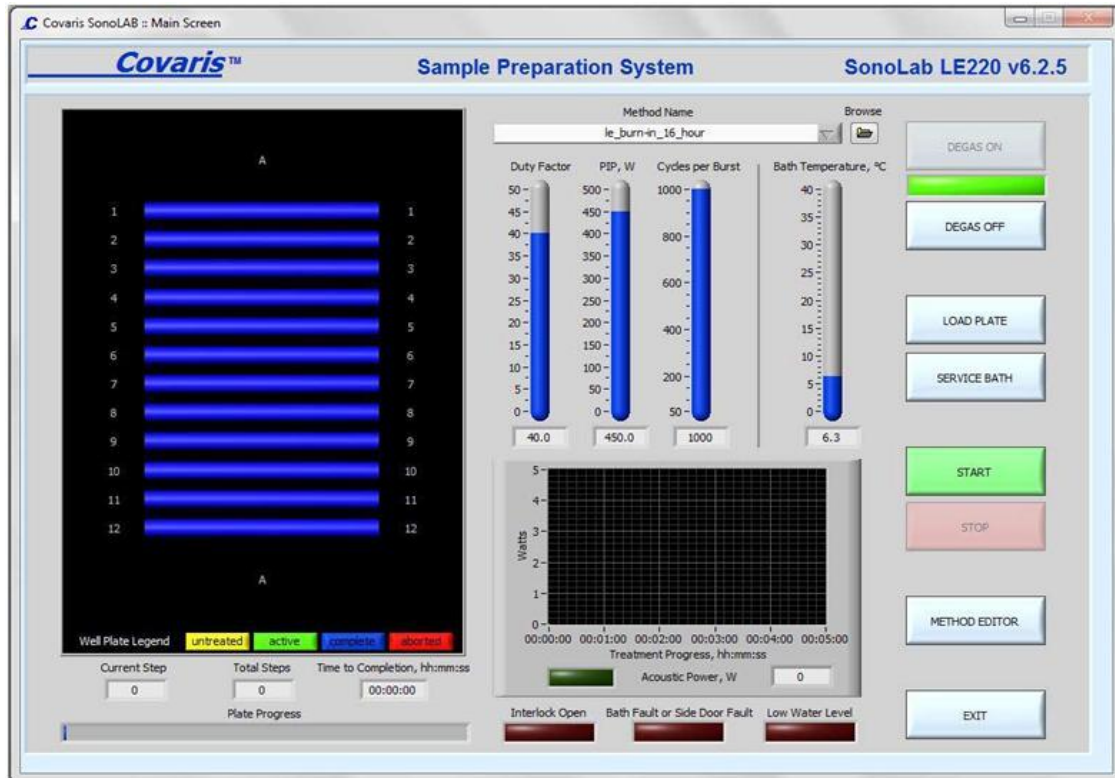
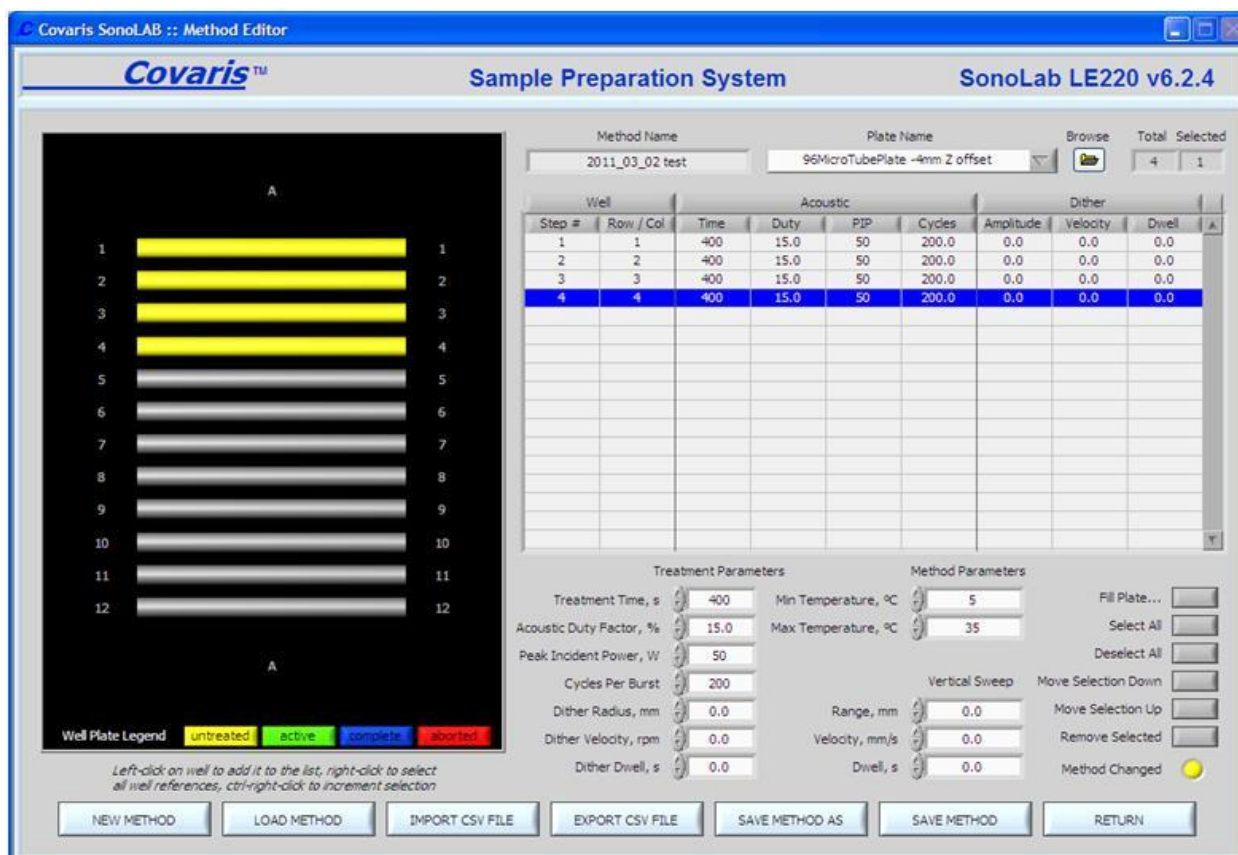

Figure 1: Covaris SonoLAB Main Screen
Figure 7: The method editor panel, used for specifying methods and plate types.
- 1.2. Ensure the transducer is already submerged and the required temperature for your program is achieved (the temperature readout as shown Figure 1 must be blue). Treatments cannot be run until the set point is reached.
- 1.3. You should see the program main window displayed. Confirm the “DEGAS ON” button is greyed out and the bar under it is lit green. You should see the degasser producing bubbles if on. If degassing is not on, click the “DEGAS ON” button so it looks like the image below. See Figure 1 below.
- 5.2. **Select** the library-specified treatment method by clicking the “**Browse**” button as shown in the upper right corner of **Fig 1** above. Each group has its own folder of methods. See folders: C:\Covaris\Clinical, Libcore, TechD or Archive. See “**Appendix A**” for program names that correspond to your samples and library strategy. Consult with your supervisor if you do not know which method to run.
- 6.2. Once the sample plate is loaded, click “**METHOD EDITOR**” button as shown Fig 1. This will result in the window shown in Figure 7 below.
- 6.5. Click the “RETURN” button at the lower right corner of the window. This brings you back to the main page (see Figure 1).